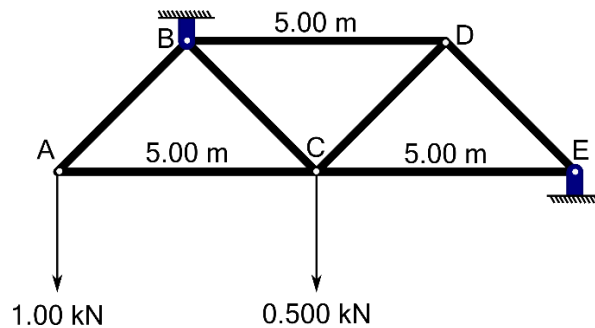

Figure B1. A loaded truss which is supported at B and E.
Refer to Figure B1 to answer the following questions, given that all six acute angles are  $45^\circ$  (implying that triangles ABC, BCD and CDE are right angled):
- a) Draw a free-body diagram for the truss shown in Figure B1. [5]